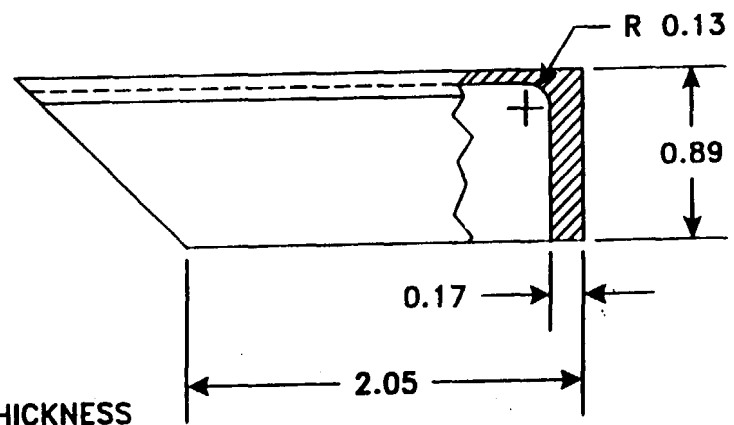

FIGURE 4
- h. Fabricate two Fittings from 1 .00 inch thick 303 CRES, ¼ hard, per QQ-S-766, to the dimensions shown in figure 4 and using distance "A" measured in step 10.g. above, to fit in the Longeron (Ref. Figures 4 & 5). A maximum gap 0.030-inch between the Fittings and the Longeron may be shimmed. A shim is not required if the Longeron/Fitting gap is less than 0.002 inch.
(1) Clean fittings by solvent wiping with an oil free solvent.